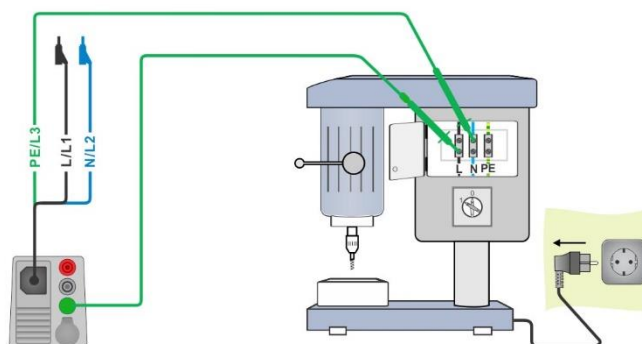

Figure 7.104: Discharging time measurement
- › Connect 3-wire test lead to the instrument and on the DUT, see **Figure 7.104**.
- › Connect DUT to the mains supply and Switch it ON, see **Figure 7.104**.